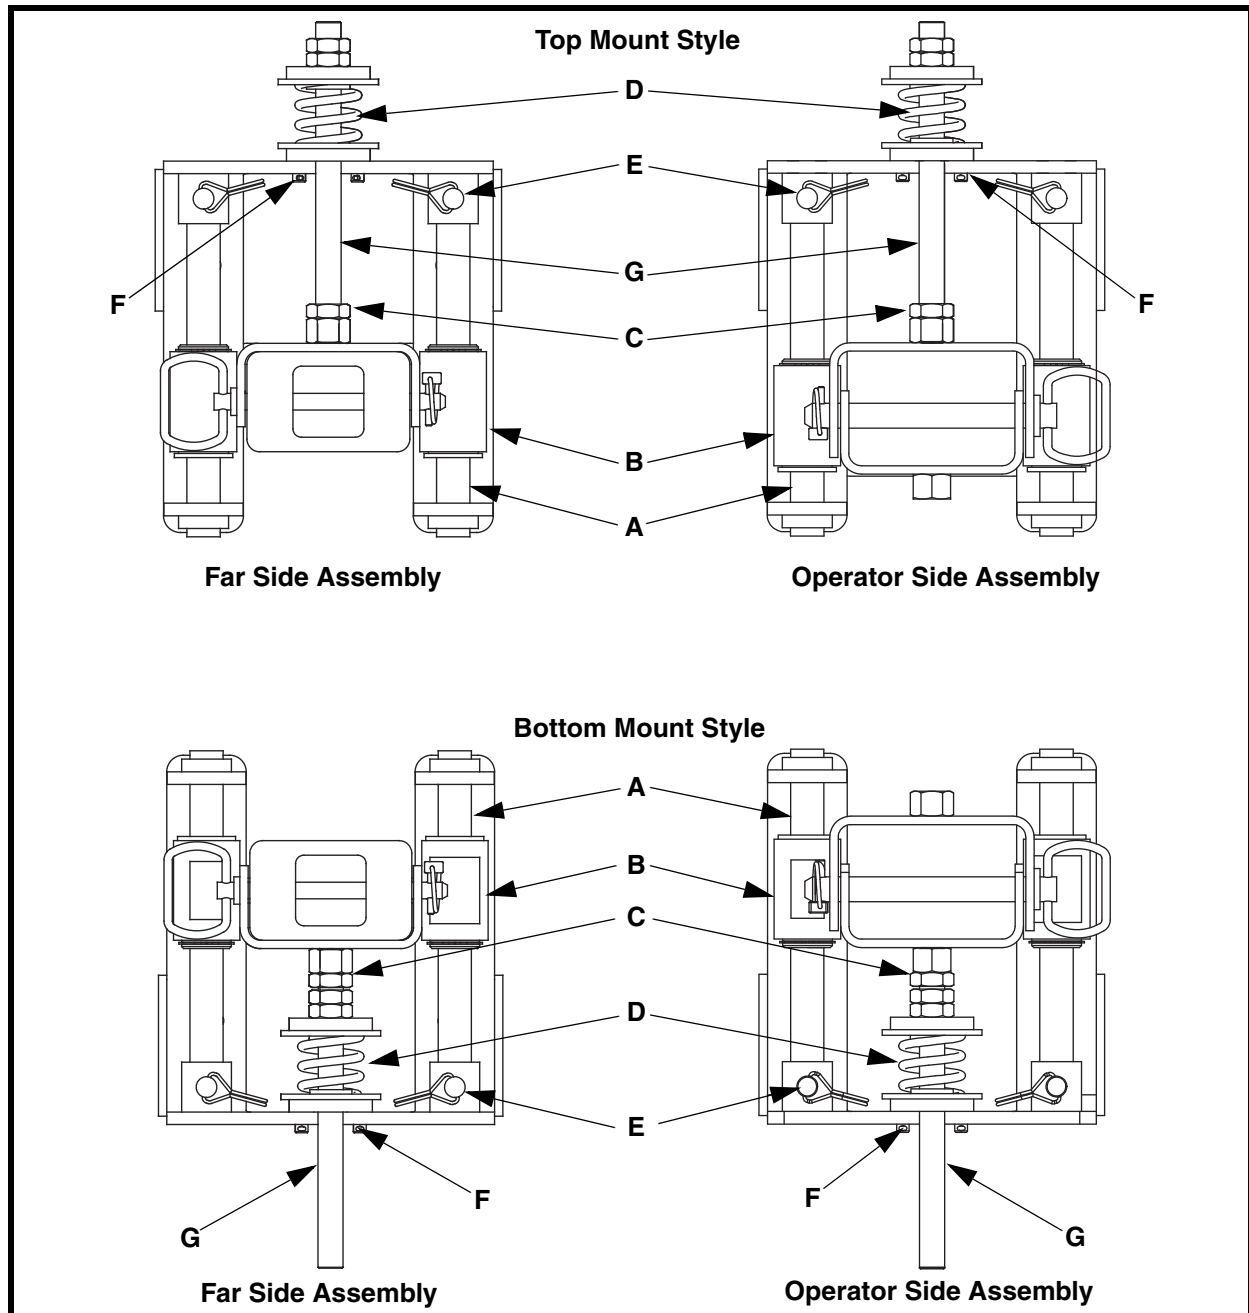

Figure 1. Spring Tensioner Conversion
1. If using spring tensioner, determine how much space is available for spring tensioner installation. If necessary, convert bottom mount spring tensioner to top mount before installing. See Figure 1.